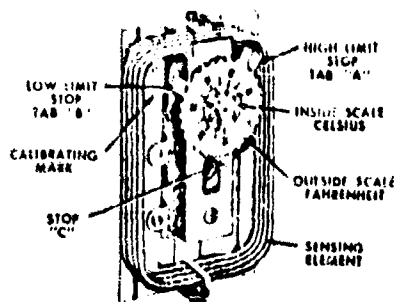

Fig. 4 — Dial stops are shown above. High limit stop is set by tab "A"; low limit stop is set by tab "B".
4. While holding dial firmly in position depress tab "A," Figure 4 and rotate clockwise until tab is against stop "C."
1. Follow the same steps as outlined under "High Limit Stop" above but rotate tab "B," Figure 4 counterclockwise.